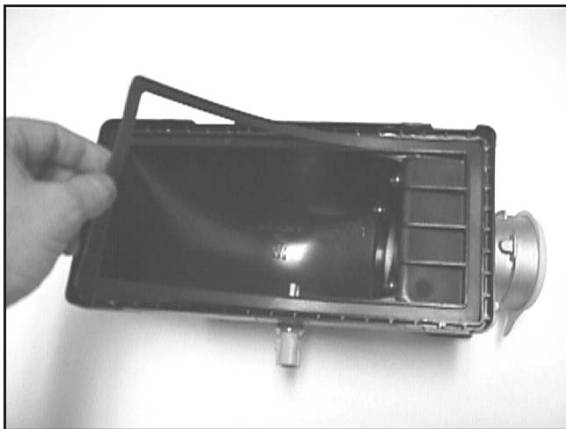

Fig. 1
- 6) Apply the self-sticking gasket around the groove on the airbox lid. (Fig. 1)